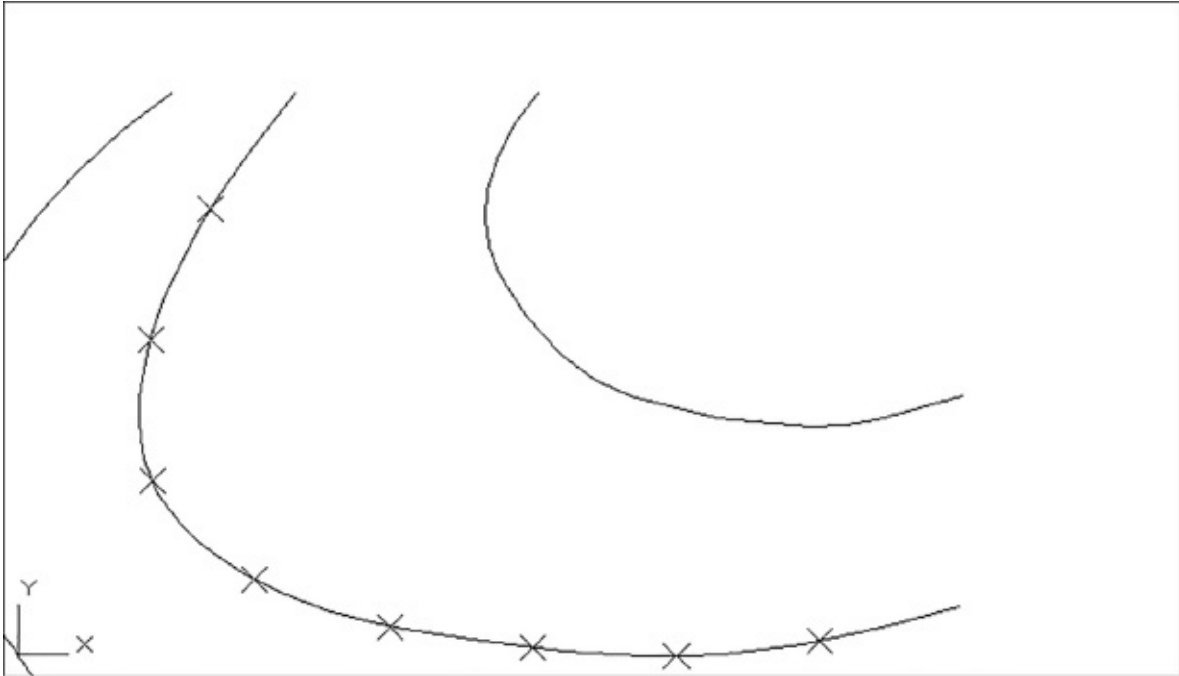

FIGURE 18.24 Using the Divide command on a polyline
3. At the Select object to divide: prompt, pick the spline contour line that shows Xs in Figure 18.24.
7. If the Xs don't appear, enter **RE** ↵. A set of Xs appears showing the nine divisions (shown earlier in Figure 18.24).